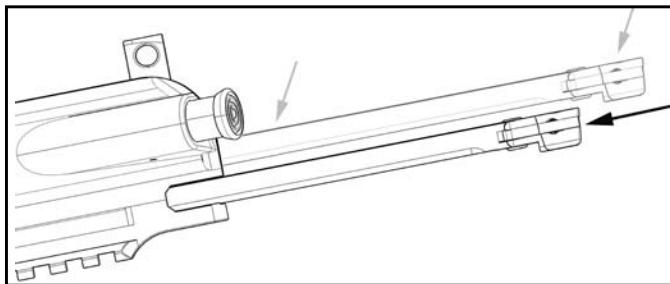

Fig. 48 – Charging Handle Installation
- f. Turn the upper receiver upside down, insert the charging handle into the upper receiver, align the lugs on the outsides of the charging handle with the recesses on the inside of the upper receiver then press down until the charging handle is flush with the inside of the receiver then press slightly forward (Fig. 48).